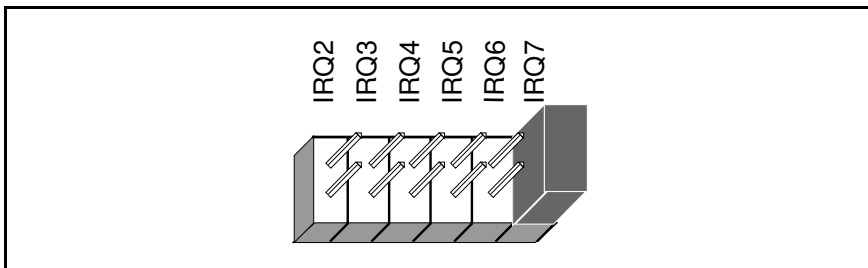

Figure 2-7. Interrupt Jumper Setting for IRQ7
3. Change the jumper settings to configure the GPIB-PCII/IIA to the new interrupt request line. Figure 2-7 shows the selection of interrupt line 7.